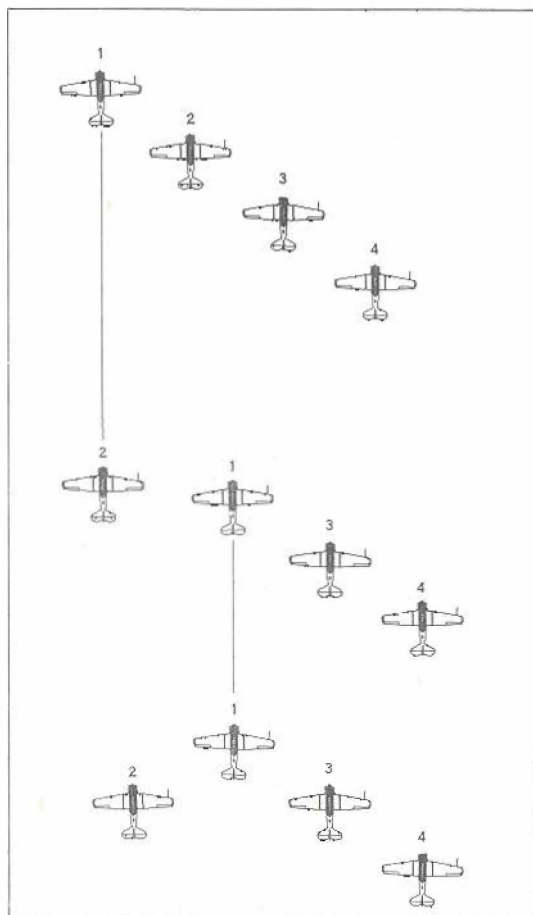

Figure 15: Changing the Element Leader
(3) **CHANGING LEADERS WITHIN THE FIRST ELEMENT -** The method of bringing Number Two up into the lead is illustrated in Figure 15 overleaf. When Number One orders Number Two to take the lead, he does so with the section in Finger formation. Number Two adjusts his power settings to enable him to pull ahead of Number One, thus putting the formation into Echelon. After reducing power to allow the other members to close-up, the new leader requests the formation to renumber. Each member checks in, giving his new